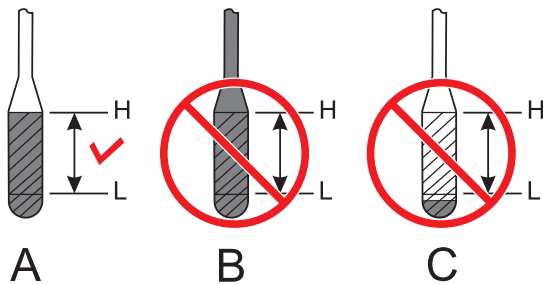

Figure 23. Engine Oil Dipstick
3. Reinsert the dipstick, then remove the dipstick from its holder. Check the oil level shown on the dipstick (Figure 23).